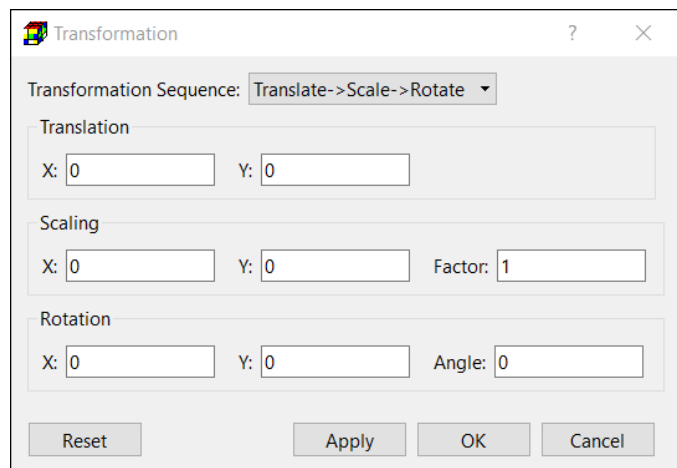

Figure 9. The Transformation dialog box
- When using the Cartesian coordinate system, the shapefile cannot be projected. However, you can transform the coordinates of all points in the shapefile by using the Transformation dialog box (Figure 9). The options in the dialog box are: